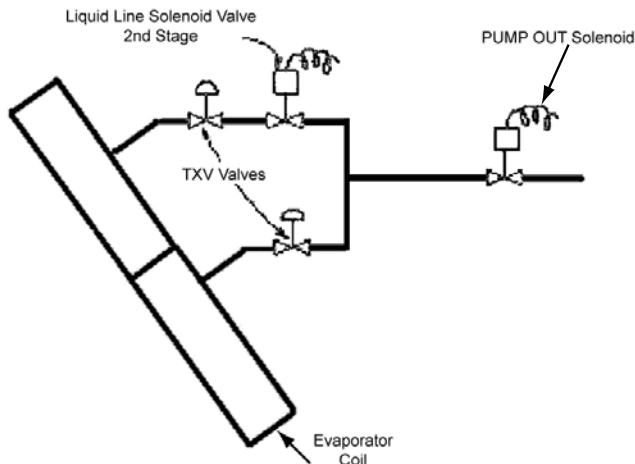
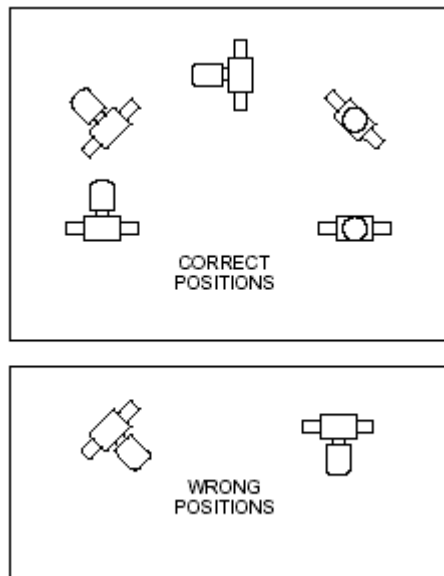
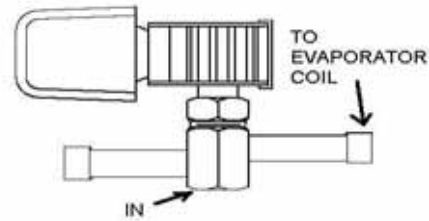

Figure 2 - Solenoid Valve Location
Figure 3 - Solenoid Valve Positions
Figure 4 - Solenoid Valve Direction
7. Install (AUX) transformer circuit breaker (CB) in the indoor unit control box. Mounting holes are pre-punched in the control panel at the position marked transformer fuse as shown on the unit connection diagram.
8. Install the solenoid valve (POs1) in the liquid line, as close to the indoor unit evaporator coils as possible; within the indoor unit cabinet (see Figure 2). As with all solenoid operated devices, the valve is position sensitive and must **NEVER** be installed with the coil below the body of the valve. Some examples of Correct and Incorrect positions are shown in Figure 3. The solenoid valve is unidirectional. Because of this, it **MUST** be installed with the "IN" port marked on the valve body away from the indoor coil and the arrow on the valve body toward the indoor coil (see Figure 4).